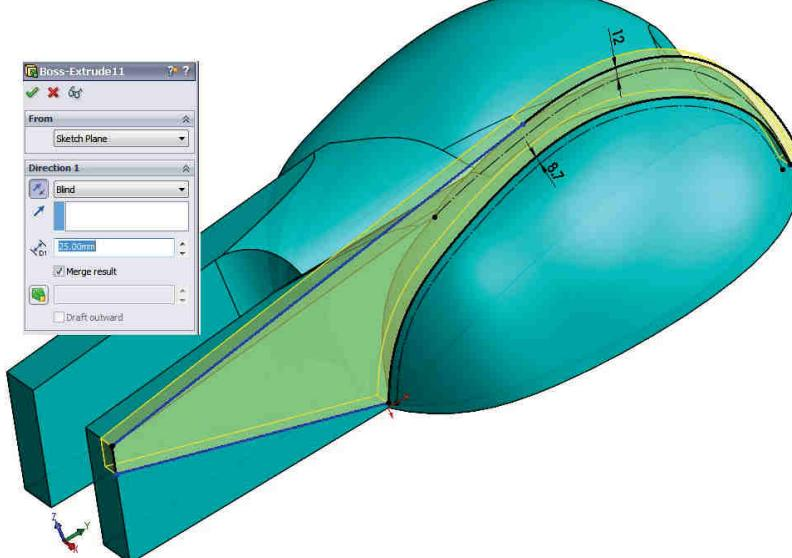

Fig. 3.21
**28 Schițare contur nervură:** comanda Sketch - Fig. 3.21 – Selectie plan 1 (față laterală furcă) / Schițare contur nervură /
**29 Creare nervură – Extrudare contur nervură:** comanda Extruded Boss/Base  - Fig. 3.21 – Direction 1 / Blind / Distance  25 mm /
**28 Sketching of the rib contour:** the Sketch command - Fig. 3.21 – Select 1 Plane (Taper Shank lateral face) / Sketch the rib contour / .
**29 Creation of the Rib – Extrudation of the rib contour:** the Extruded Boss/Base  command - Fig. 3.21 – Direction 1 / Blind / Distance  25 mm /